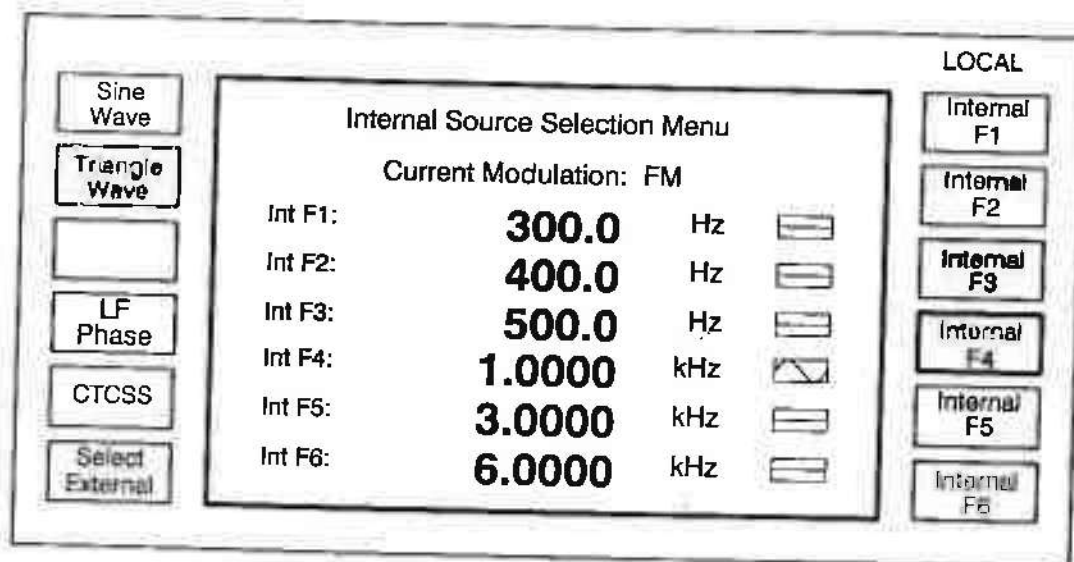

Fig. 6 Internal source selection menu
19. The modulation source may be selected by pressing [Select Source]. Sources may be internal or external. If the currently selected source is internal, the Internal Source Selection Menu is displayed, giving a choice of six sources, F1-F6, see Fig. 6. The frequency assigned may be changed by the numerical keypad and terminated with [Hz], [kHz], or [MHz]. Soft keys allow the selection of either a sine or triangular waveform. The selection of sub-audible continuous tones can be achieved by pressing [CTCSS]. Pressing [LF Phase] displays the LF Source Phase Control menu. An external source may be selected by pressing [Select External]. The External Source Selection Menu is then displayed on the screen. (This menu is displayed immediately when pressing [Select Source] if the currently selected source is external.)